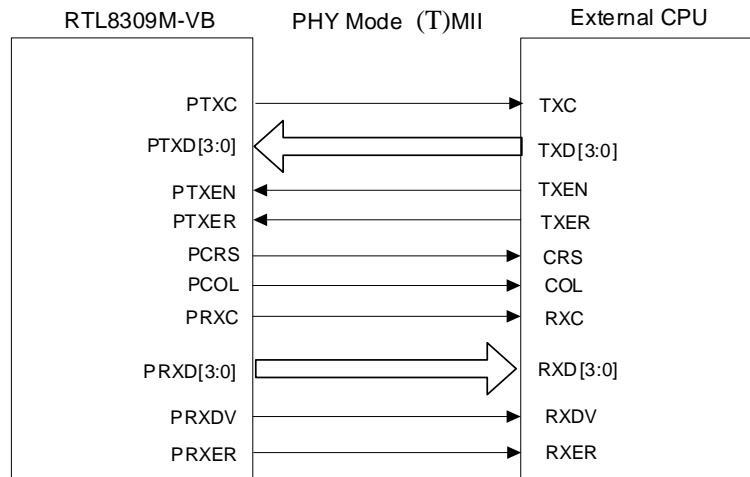

Figure 10. PHY Mode (T)MII Signal Diagram
7.3.5.1 PHY Mode (T)MII
PHY mode (T)MII means (T)MII at the RTL8309M-VB drives the transmitting and receiving reference clock. Figure 10 shows the signal diagram for PHY mode (T)MII. PTXER/PRXER/PCOL/PCRS are not connected in TMII PHY mode.